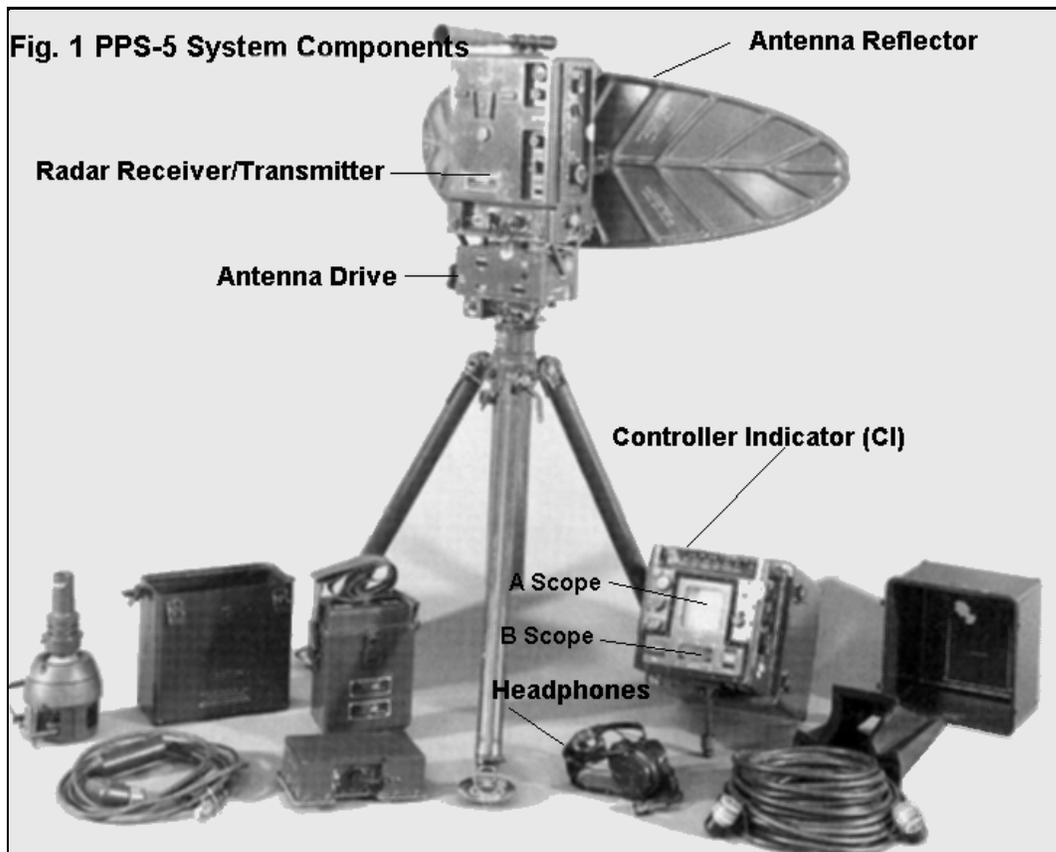

Fig. 2.
This type of radar works similarly to those used to guide civilian aircraft safely into airports, although the Army system, the PPS-5B (Figure 1) is older, more spartan, and only tracks targets in two dimensions. The radar has two major components, the radar transmitter (RT) and the controller indicator (CI). The RT puts out the electronic waves, and the CI (Figure 2) is used to interpret them. Basically, the radar puts out electronic bursts of energy at a constant rate. These pulses reflect off targets and cause an echo, which is then transformed back into an electronic signature by the controller indicator. The system determines range by the length of time that the echo takes to return to the radar. Targets must be moving, or have moving parts, like an engine idling, in order for the detection to be accurate.